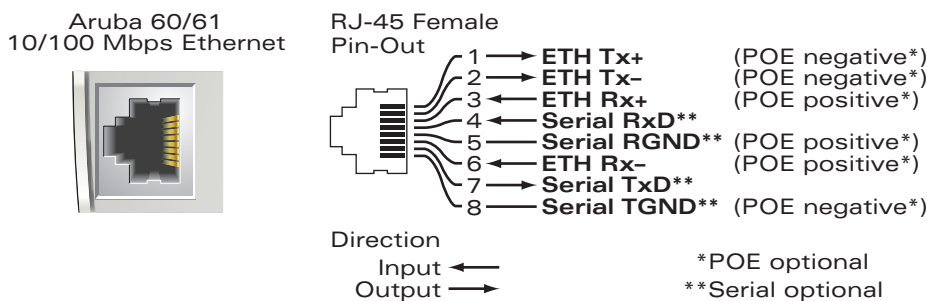

FIGURE B-1 Aruba AP 60/61 FE Port
The 10/100 Mbps Ethernet (FE) port is located on the right-hand side of the Aruba AP 60/61 and has an RJ-45 female connector. The port pin-outs are shown in Figure B-1: